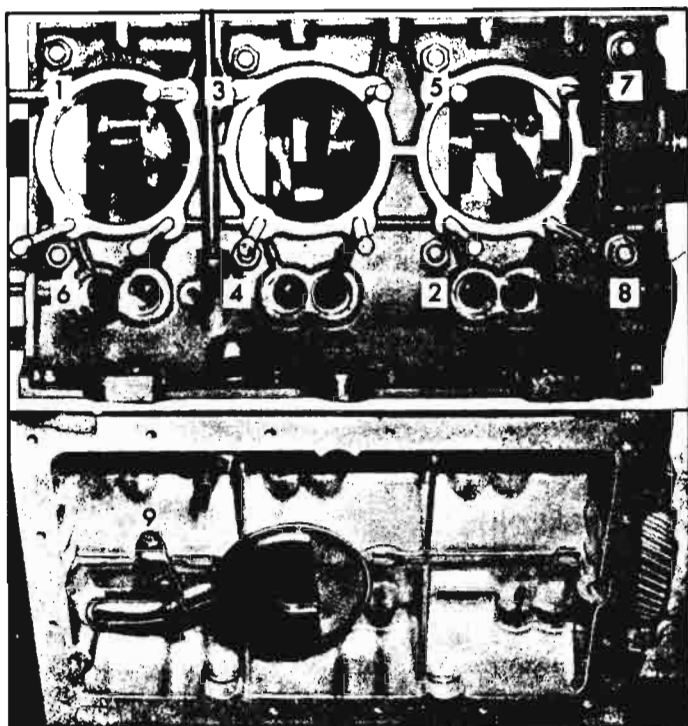

Fig. 6A-82—Crankcase Tightening Sequence
NOTE: To assure the proper seating of the bearings, all crankcase bolts must be at their specified torque. Eight long bolts $7/16$ "-20, 42 to 48 ft. lbs. and one $5/16$ "-18, 7 to 13 ft. lbs. torque. Hold bolt head, on crankcase bolts $7/16$ "-20" while tightening the nut. Do not tighten at bolt head. Figure 6A-82 shows tightening sequence. One $5/16$ " bolt (#9, Fig. 6A-82) is used to fasten the oil suction tube retaining bracket. In addition, preparatory to checking fit of bearings, the surface of the crankshaft journal and bearings should be wiped clean of oil.
2. Place a piece of Plastigage the full width of the bearing (parallel to the crankshaft on the journal) (fig. 6A-83).
graduations on the Plastigage envelope (fig. 6A-83).